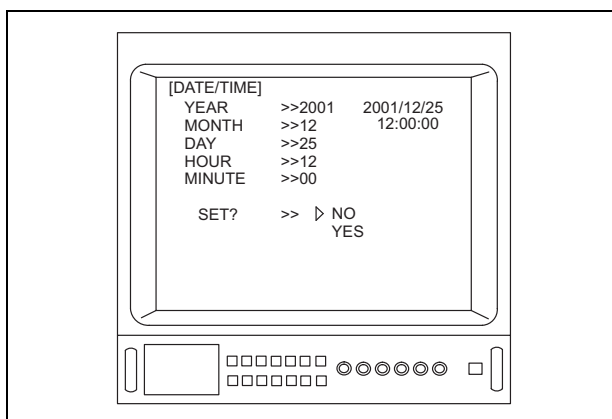

Figure 5.12
9. Depress the menu switch “↵” or the “Enter” key on the keyboard to adjust the clock (see Figure 5.12).